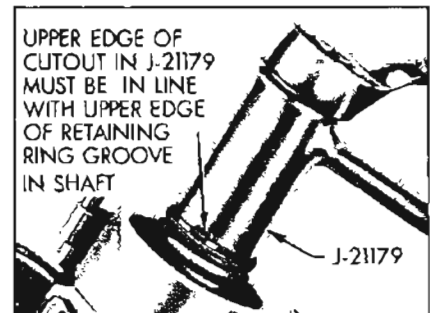

Figure 8-93—Compressing Preload
12. Using the No. 2 Truarc Pliers J-4880, install the retainer ring on upper shaft. Place Installer J-21179 with cut out or slot on retainer ring as shown in Figure 8-93. Install the steering shaft nut and tighten until the cut out in J-21179 is in line with the upper edge of the retainer ring groove in shaft. Remove nut and J-21179 and allow ring to seat in groove in shaft.